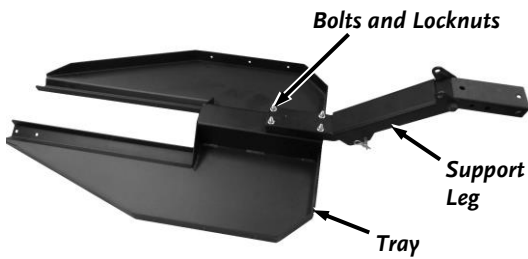

Figure 4
2. Install the Tow Bar to the Tray with four 3/8-16 X 2.5 Bolts and Lock Nuts (from product package) using two 9/16" Wrenches (**Figure 4**).